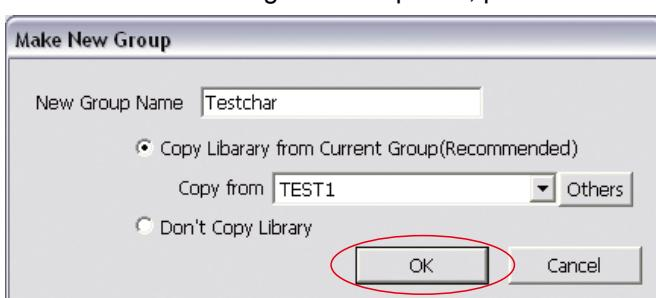

Figure 1-4 Make New Group
Step6: Select **Group Name** from the drop-down list. Press **New** to add new group. The window shown in Figure 1-4 appears. After all the settings are completed, press **OK**.